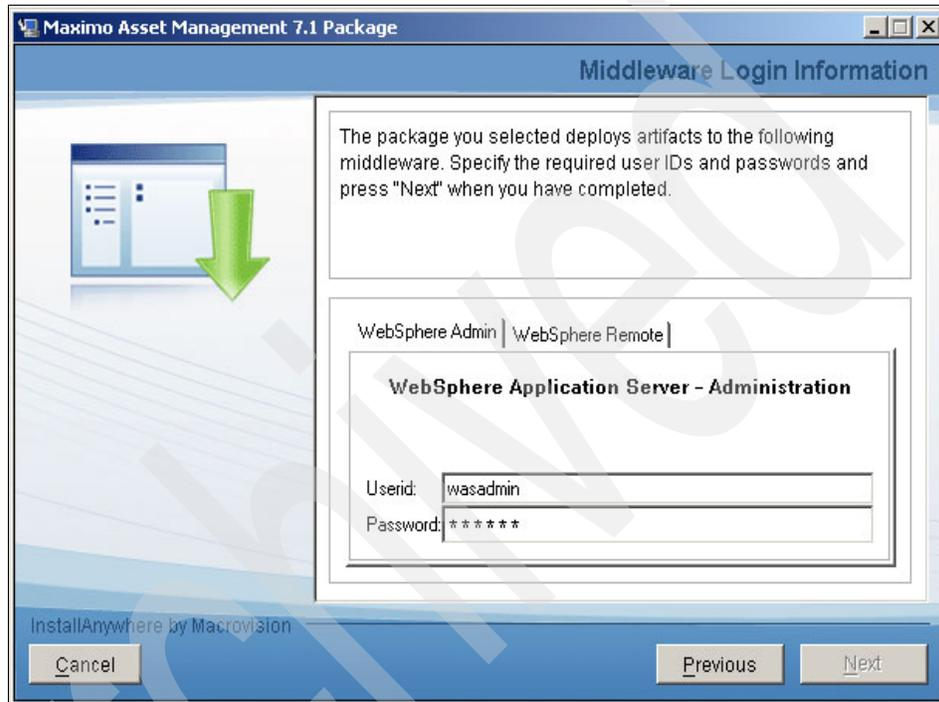
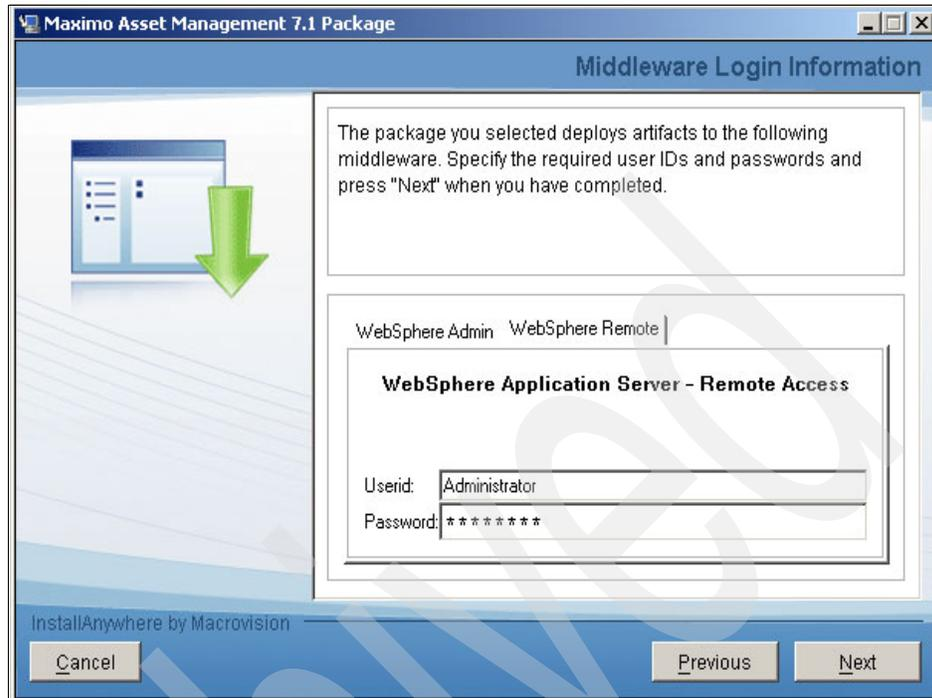

Figure 5-29 Middleware Login information
Figure 5-30 Middleware Login information-WebSphere Remote
- From the Middleware Login Information panel (see Figure 5-29), enter the credentials for which you are being prompted. Then click the **WebSphere Remote** tab and enter a user ID and password (see Figure 5-30 on page 106). The Process Solution installation wizard validates the credentials by connecting to the middleware servers using the supplied credentials. Click **Next**.